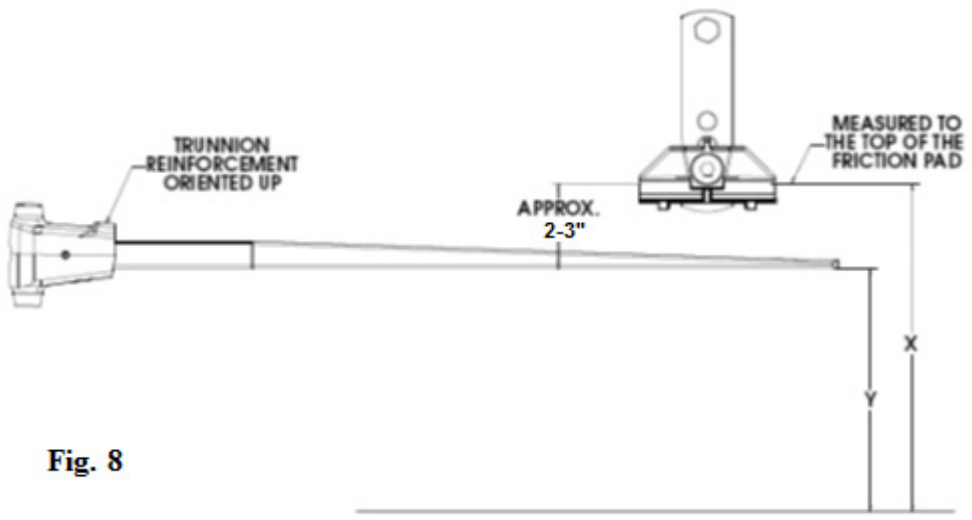

Fig. 8
- Install 5/8" Nylon lock nut (P) onto 5/8" shoulder bolt and torque to 50-75 ft*lbs. The top nut flat may need to be oriented horizontally to prevent interference with the frame for higher mounting locations (See Fig. 4). **NOTE:** During spring bar setup, it may be necessary to use a lower bracket hole to decrease spring bar load if there is not enough head angle adjustment (See Fig. 8).
- Torque 5/8" lock nuts (S) to 120 ft*lbs.
FOR TRAILERS WITH A BOTTOM MOUNTED/INVERTED COUPLER: Use the lower pad hanger mounting holes in the outside frame brackets and adjust the ball mount angle to achieve the proper height before loading the spring bars (See. Fig. 8).
- Insert shoulder bolt (Y) through the pad hanger (M) and the hole in the outside frame bracket (T) which allows the proper height shown in Fig. 8.
NOTE: During spring bar setup, it may be necessary to use a lower bracket hole to decrease spring bar load if there is not enough head angle adjustment (See Fig. 8).
MOUNTED/INVERTED COUPLER: Use the lower pad hanger mounting holes in the outside frame brackets and adjust the ball mount angle to achieve the proper height before loading the spring bars (See. Fig. 8).
- Level the trailer. Measure and record the distance from the ground to the top of the friction pad (X dimension Fig. 8).
- Install spring bar - Orient the spring bar/trunnion assembly with the trunnion reinforcement to the top (rating label side up) shown in Fig. 8. Set the bottom pin of the trunnion into the lower socket of the ball mount and slide the top trunnion pin into the top slot in the ball mount. Spring bar/trunnion assemblies will fit on either side.
- As a starting point, the spring bar height "Y", shown in Fig 8, should be approximately 2 to 3" less than the friction pad height "X".
- Install spring bars - orient the spring bar/trunnion assembly with the trunnion reinforcement facing up as shown in Fig 8. Set the bottom pin of the trunnion into the lower socket of the ball mount and slide the top trunnion pin into the top slot in the ball mount. Spring bar/trunnion assemblies will fit on either side.
- Using the tongue jack, raise the tongue of the trailer and rear of vehicle as high as possible and attempt to set spring bars on top of pad hangers. If bars will not swing over the pad hanger, use of the lift handle (W) will be required.